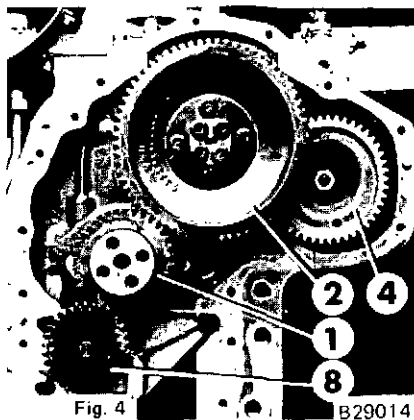

Fig. 4 B29014
- Zero marking on the crankshaft gear 1 with the 0-0 mark on the camshaft gear 2 (Fig.4)
The oil pump gear 8 can be in any position (Fig. 4).